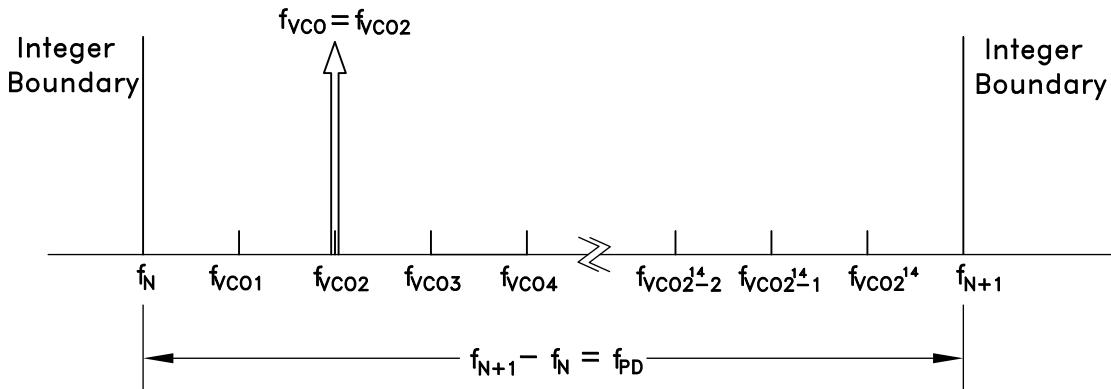

Figure 47. Exact Frequency Tuning
and f_{VCOk} are the channel step frequencies where $0 < k < 2^{24}-1$, As shown in Figure 47.
Some fractional PLLs are able to achieve this by adjusting (shortening) the length of the Phase Accumulator (the denominator or the modulus of the Delta-Sigma modulator) so that the Delta-Sigma modulator phase accumulator repeats at an exact period related to the interval frequency ($f_{VCOk} - f_{VCO(k-1)}$) in Figure 47. Consequently, the shortened accumulator results in more frequent repeating patterns and as a result often leads to spurious emissions at multiples of the repeating pattern period, or at harmonic frequencies of $f_{VCOk} - f_{VCO(k-1)}$. For example, in some applications, these intervals might represent the spacing between radio channels, and the spurious would occur at multiples of the channel spacing.
If it is desirable to have multiple, equally spaced, exact frequency channels that fall within the same interval (ie. $f_N \leq f_{VCOk} < f_{N+k}$) where f_{VCOk} is shown in Figure 47 and $1 \leq k \leq 2^{14}$, it is possible to maintain the same integer-N (Reg 03h) and exact frequency register (Reg 0Ch) settings and only update the fractional register (Reg 04h) setting. The Exact Frequency Channel Mode is possible if \(EQ_16\) is satisfied for at least two equally spaced adjacent frequency channels, i.e. the channel step size.
To configure the HMC832LP6GE for Exact Frequency Channel Mode, initially and only at the beginning, integer (Reg 03h) and exact frequency (Reg 0Ch) registers need to be programmed for the smallest f_{VCO} frequency (f_{VCO1} in Figure 47), as follows:
1. Calculate and program the integer register setting $\text{Reg 03h} = N_{INT} = \text{floor}(f_{VCO1}/f_{PD})$, where f_{VCO1} is shown in Figure 47 and corresponds to minimum channel VCO frequency. Then the lower integer boundary frequency is given by $f_N = N_{INT} \cdot f_{PD}$.
$$\text{Reg04h} = N_{FRAC} = \text{ceil}\left(\frac{2^{24}(f_{VCOk} - f_N)}{f_{PD}}\right) \quad \text{where } f_N = \text{floor}(f_{VCO1}/f_{PD}), \text{ and } f_{VCO1}, \text{ as shown in Figure 47, represents the smallest channel VCO frequency that is greater than } f_N.$$
4. To change from channel 1 ($f_{VCO1} = 2800.2$ MHz) to channel 2 ($f_{VCO2} = 2800.3$ MHz), only Reg 04h needs to be programmed, as long as all of the desired exact frequencies f_{VCO_k} (Figure 47) fall between the same integer-N boundaries ($f_N < f_{VCO_k} < f_{N+1}$). In that case